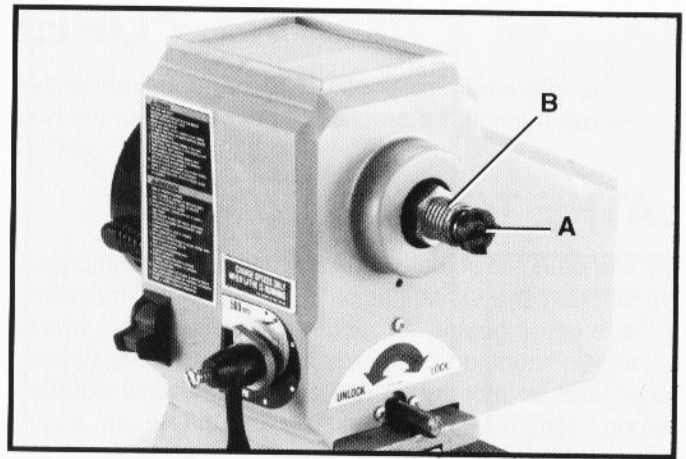
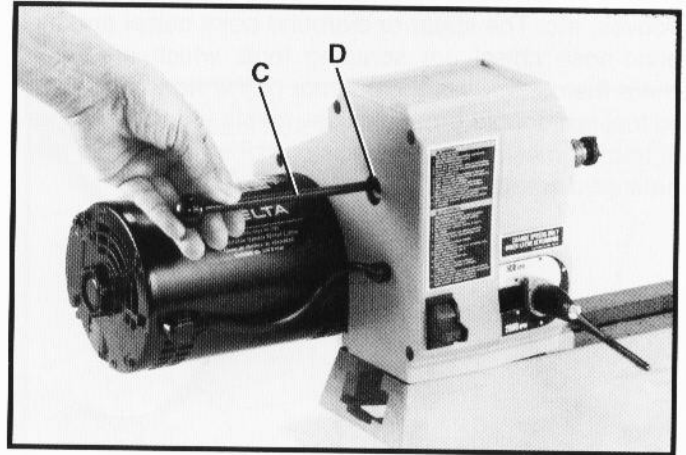

Fig. 29
Fig. 30
The spur center (A) Fig. 29, supplied with your lathe, is equipped with a No. 2 Morse Taper shank and is inserted into the headstock spindle (B) as shown. To remove the tapered shank spur center (A) from the headstock spindle, use the knockout bar (C) Fig. 30 (supplied) through the hole (D) in the opposite end of the spindle. It is equipped with a brass plug on one end and a comfortable knob on the other. **IMPORTANT: NEVER DRIVE THE WORKPIECE INTO THE SPUR CENTER WHEN IT IS MOUNTED IN THE HEADSTOCK.** Instructions on setting the spur center into the workpiece are found in the "OPERATION" section of this manual.